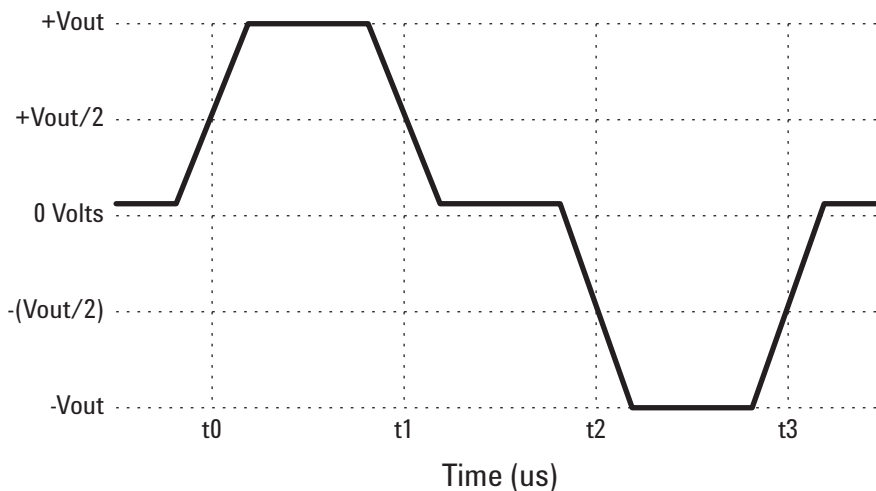

Figure 29 Bottom Threshold
Figure 29 illustrates the effects of choosing $-(+V_{out}/2)$ as the bottom crossing threshold. The reference waveform is redrawn with exaggerated baseline wander. Note that the choice of $-(+V_{out}/2)$ as the bottom threshold results in worse duty cycle distortion value than if $-V_{out}/2$ were chosen as the negative threshold.
- 2 Ensure that the DUT is sending the MLT-3 encoded 01010101 NRZ bit sequence as shown in Figure 29.
Figure 29 illustrates the effects of choosing $-(+V_{out}/2)$ as the bottom crossing threshold. The reference waveform is redrawn with exaggerated baseline wander. Note that the choice of $-(+V_{out}/2)$ as the bottom threshold causes a worst peak-to-peak duty cycle distortion value than if $-V_{out}/2$ were chosen as the negative threshold.
As indicated in Figure 29, the 4 successive 50% crossing times are measured. These are named t_0 , t_1 , t_2 , and t_3 respectively. The specification states that the deviations of the 50% crossing times from a best fit grid of 16 ns shall not exceed ± 250 ps. We validate this specification in terms of the peak-to-peak duty cycle distortion requirement of 500 ps. This is done as follows: